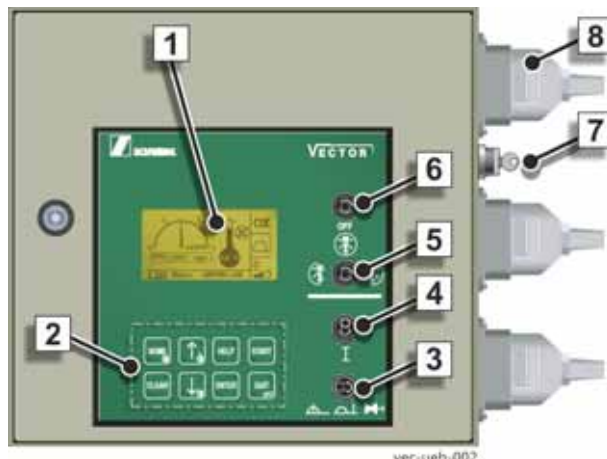

Fig. 198
The display (1) (**Fig. 198**) shows the most important operating data on its two start screens.